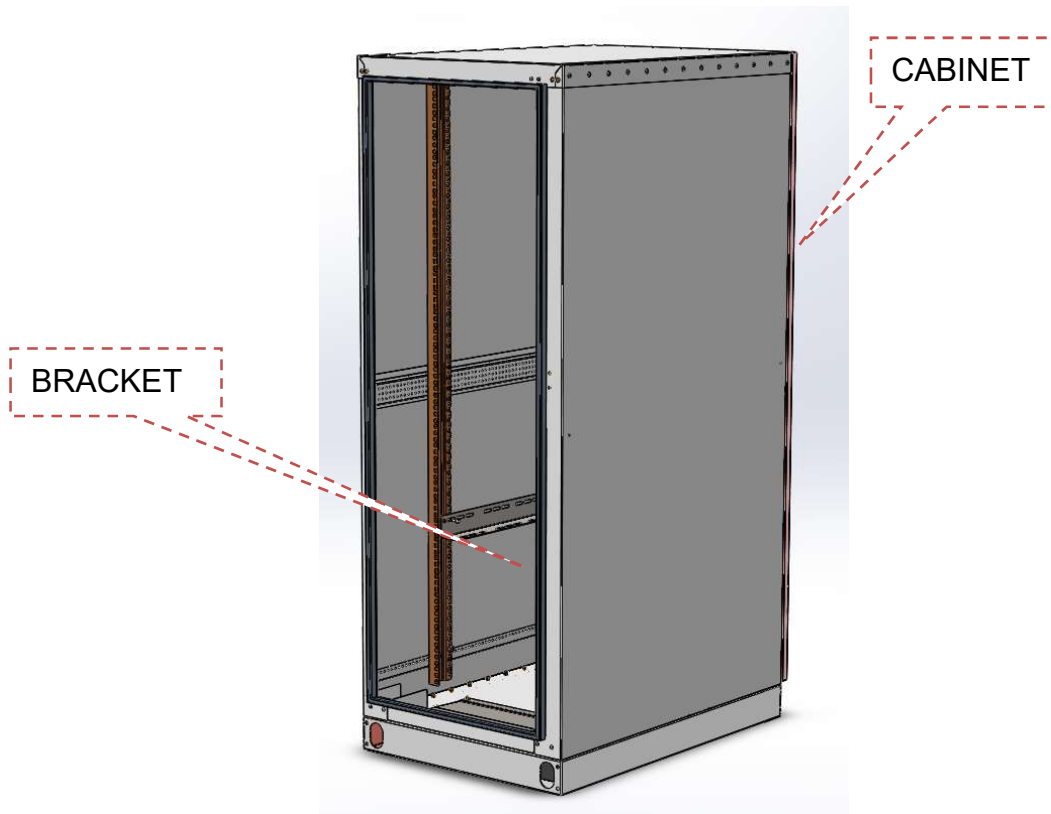

Figure 3-14
1. Install bracket on the cabinet with the screw reference to Figure 3-14.